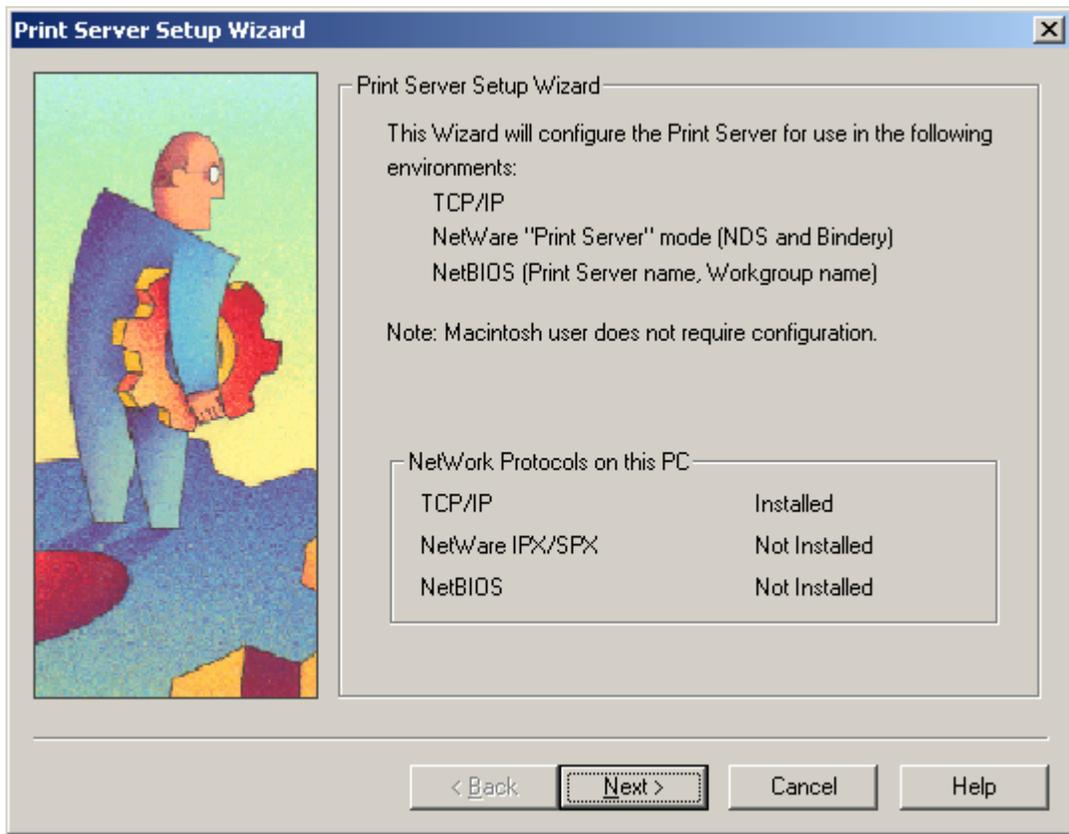

**Figure 4-9 NETGEAR Print Server software Icon**
You can open and access the group from your desktop as well. See Figure 4-9 in the next section.
1. Double-click on the desktop icon, as shown in Figure 4-9.